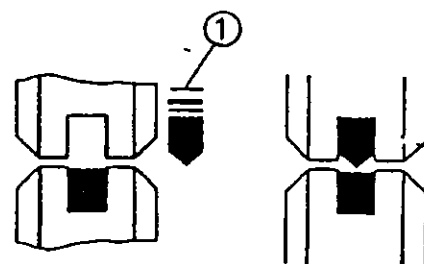

Fig. 27
4. The upper knife is mounted in the cross sealing jaws again and by means of a shim (metal / various sizes), the knife is adjusted for correct cutting of the wrapping material, Fig. 27, Pos. 1. Too much support under the knife will make the upper sealing jaw lift itself at the time of cutting which again will result in poor sealing.
- Check that the brakes are intact (Fig. 27, Pos. 1).